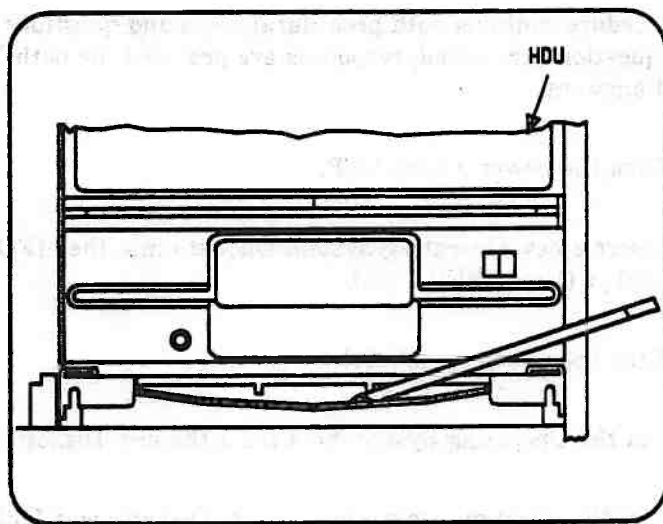

Figure 5-10. Unlocking Drive Assembly
8. Unlock the drive assembly and slide the assembly forward enough to gain access to the cables (Figure 5-10).